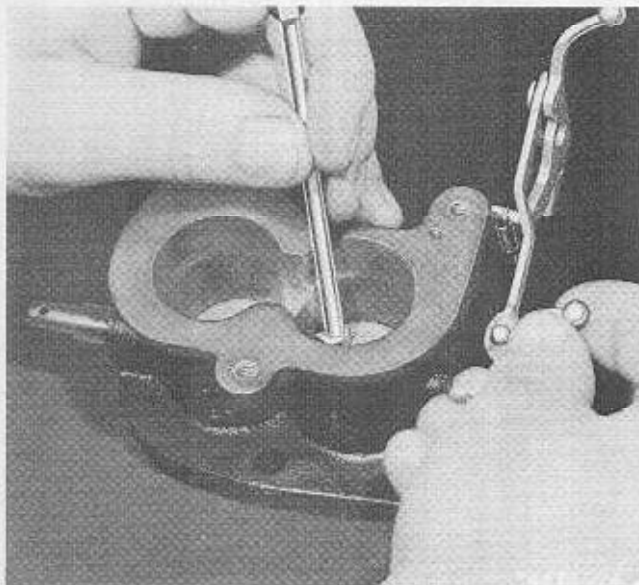

Fig. 27
**21** Clean out the idle adjustment screw discharge holes into throat, using hand chuck 9518-E and 9518-F drill (.046") as shown in Fig. 27, page 77.
**38** Hold throttle closed and gauge distance from throttle plates to the idle discharge holes just above plates as shown in Fig. 27. Use "Go", "No-Go" gauge #9518-B. If distance is not within gauge limits, install new throttle plates on throttle body or both if needed. Poor idling and low speed operation will likely be encountered if this dimension is not within specified limits.